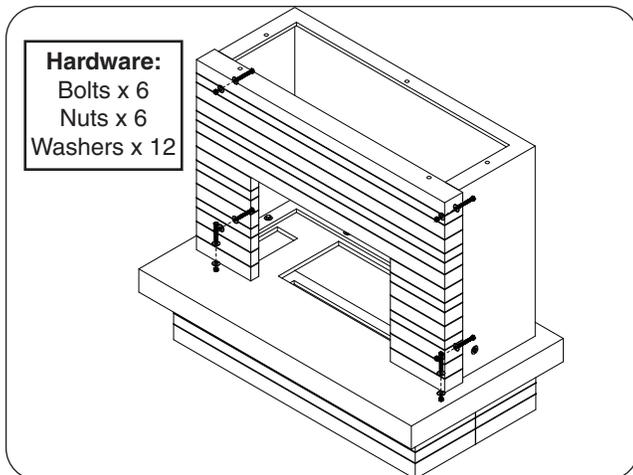

Fig. 21-2 Fasten fascia
2. Carefully align the pilot holes, and repeat the hardware installation process. See Fig. 21-2.